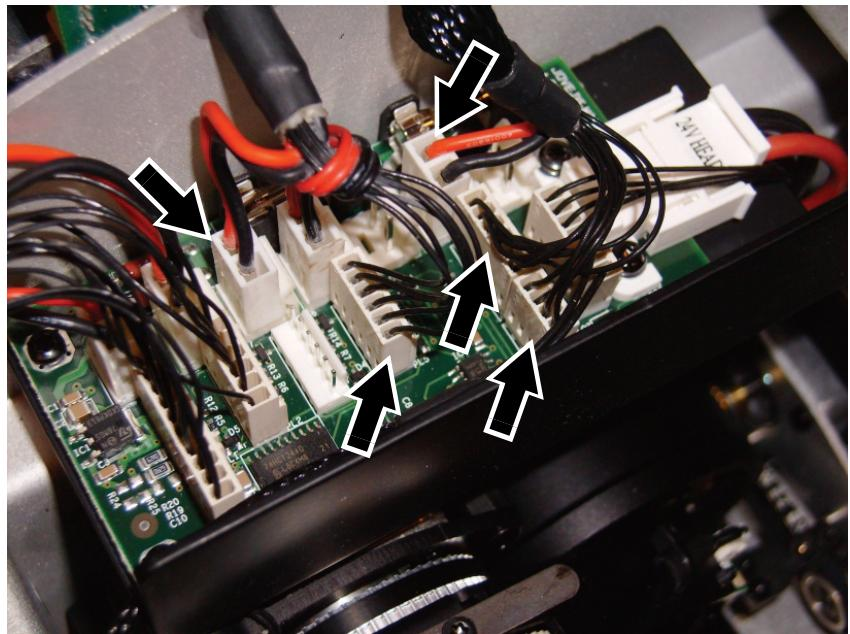

Figure 12
16. Referring to Figure 12, connect the new module's connectors in the same positions as the old ones.